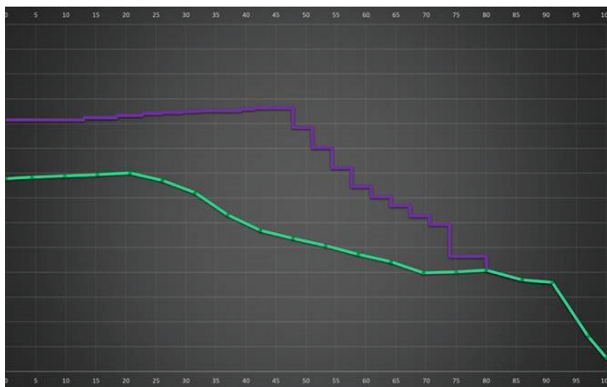

Figure 8
- The attached chart (Figure 8) provides an example of the theoretical maximum charge rate under ideal conditions (purple line) versus the **reduced maximum charge rate with Battery friendly quick charging activated** (mint green line).